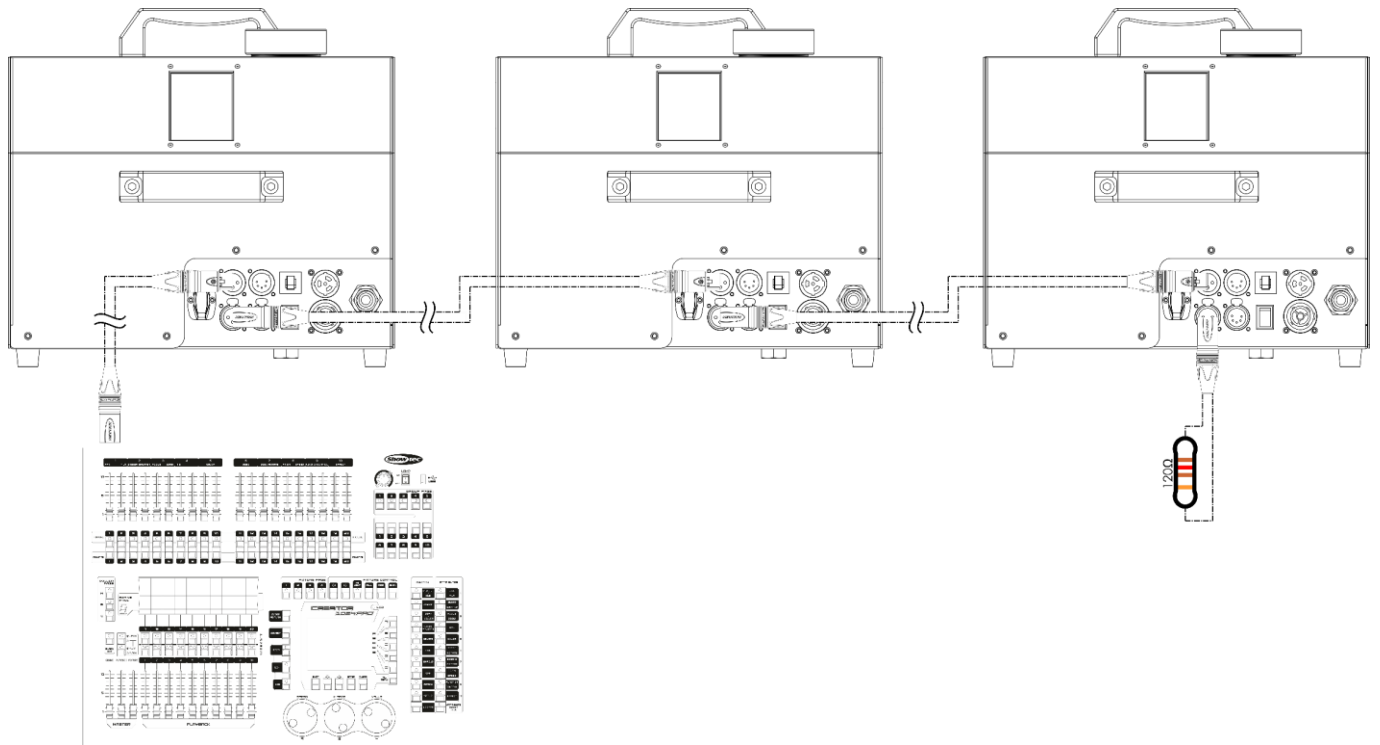

Fig. 04
- 04) Link the units as shown in fig. 04. Connect a DMX signal cable from the first unit's DMX "out" socket to the second unit's "in" socket. Repeat this process to link the second, third, and fourth units.